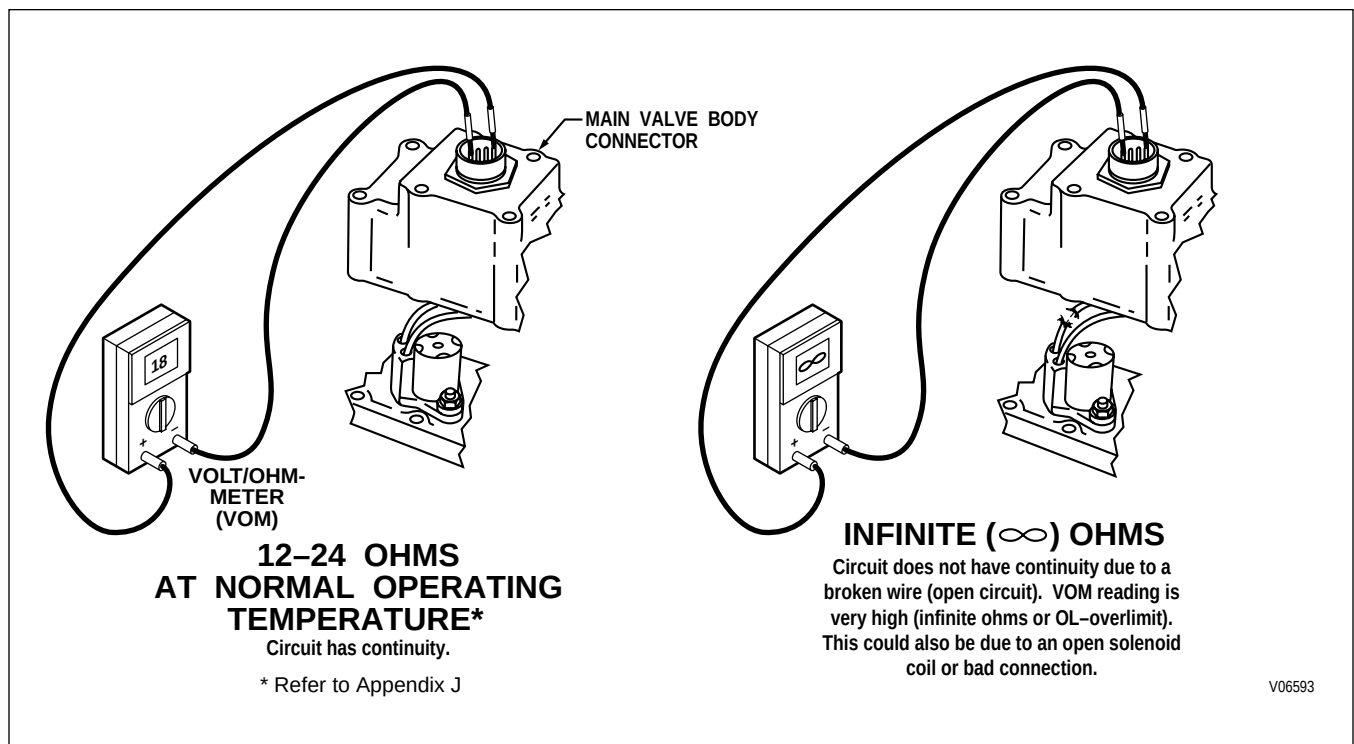

Figure 4–3. Checking Continuity
- b. If the resistance check is good, check the harness for shorts between wires and to ground by performing the following (refer to Figure 4–4):
- (1) At the transmission connector, touch one probe of the VOM to one wire of the circuit being tested and touch the other probe to each terminal in the connector and to chassis ground and the transmission main housing. Do this for both wires in the circuit being tested.
- (2) If the VOM shows zero to low resistance, or the continuity beeper sounds, there is a short between the two points being probed, wire-to-wire or wire-to-ground. An indication of a short may be caused by a splice to the wire being checked. Check the wiring diagram in Appendix G for splice locations. If the short is not a splice, then isolate and repair the short.